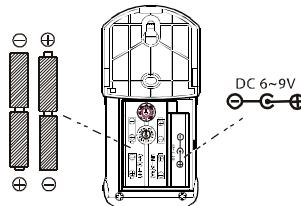

Fig. 9
2. Put in 4 new AA 1.5 V alkaline batteries ensuring correct polarity. Fig. 9